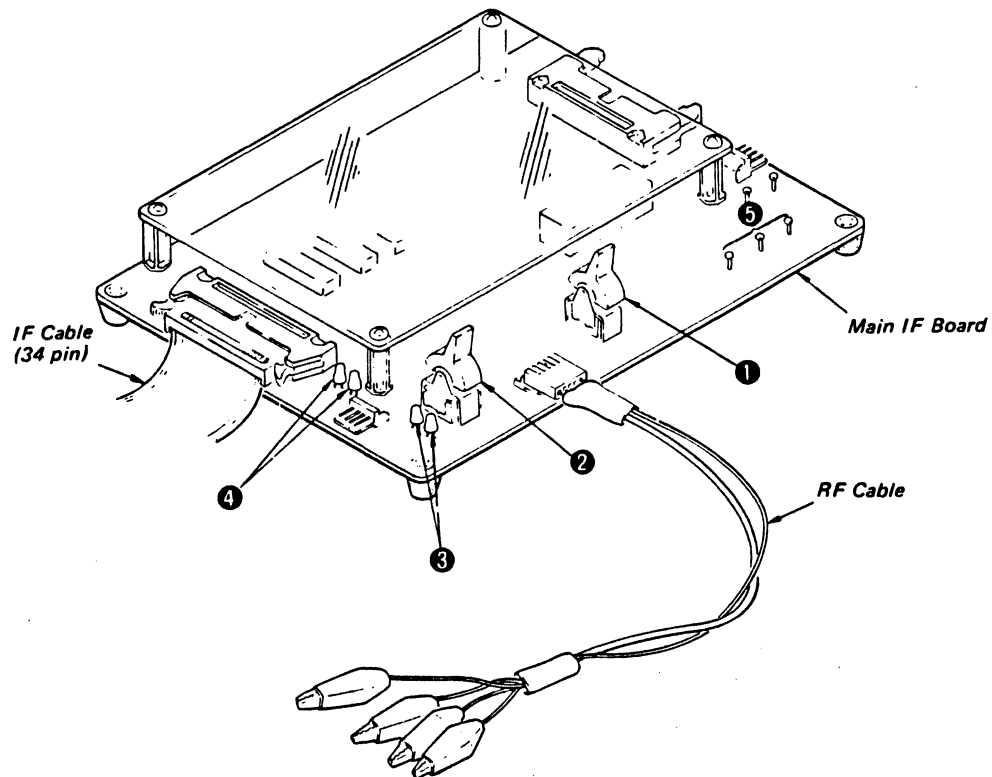

Fig. 2-4 IF Board 52/53 Configuration
(1) IF Board 52/53 configuration (Refer to Fig. 2-4)